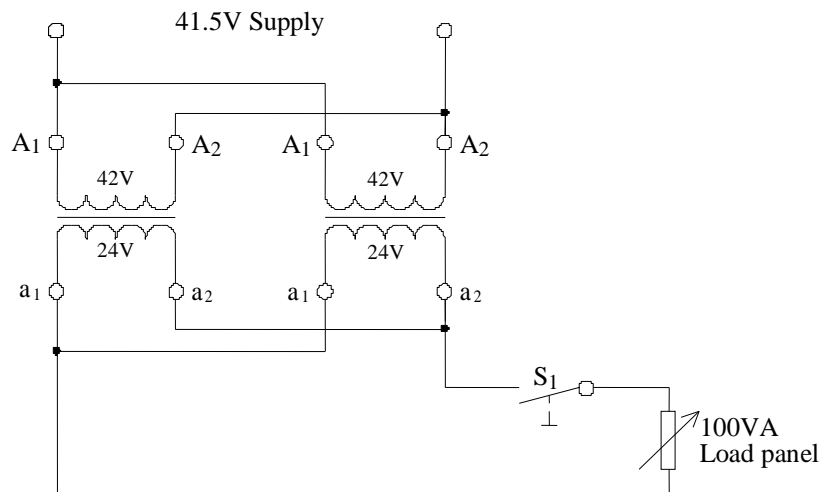

Figure 4
- Connect the load to the paralleled transformers as shown in figure 4.